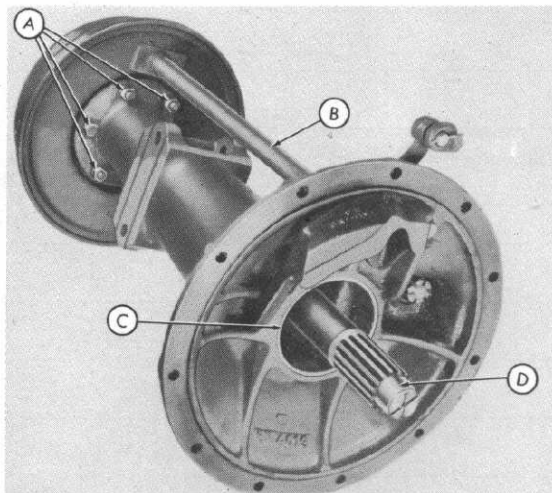
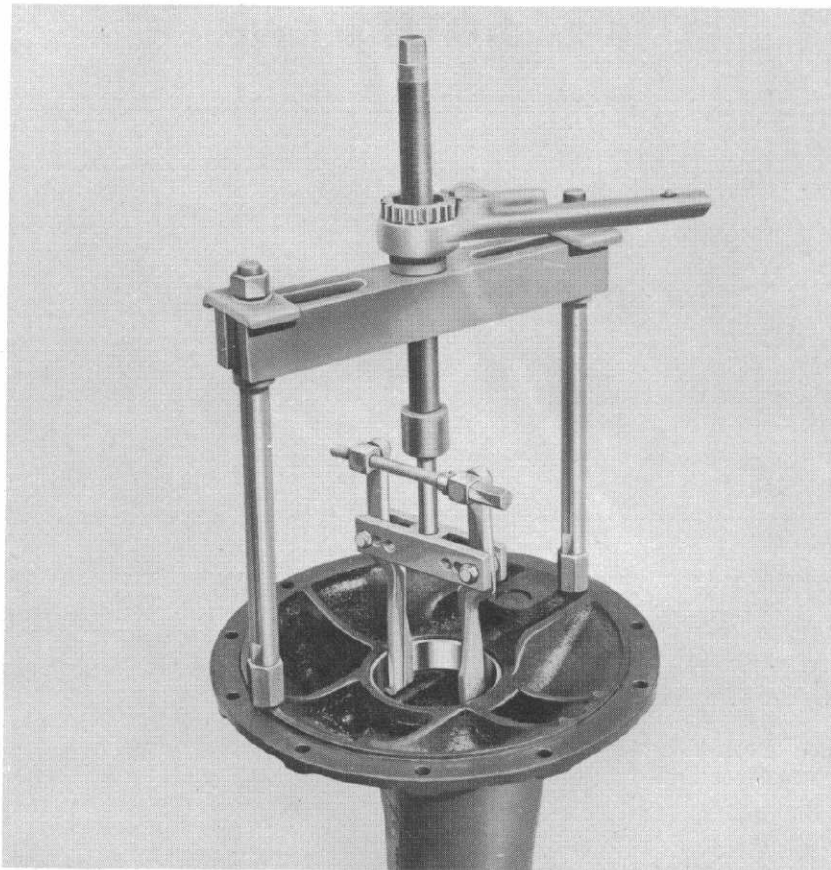

Fig. 4
Fig. 5
a. Remove the two cap screws, the four nuts, and the lockwashers (A-Figure 4) that secure the brake drum and axle assembly to the axle housing.
b. Tap the axle shaft (D-Figure 4) with
c. Remove the brake camshaft (B-Figure 4).
Step 2—Remove the old bearing cup (C-Figure 4) as shown in Figure 5.